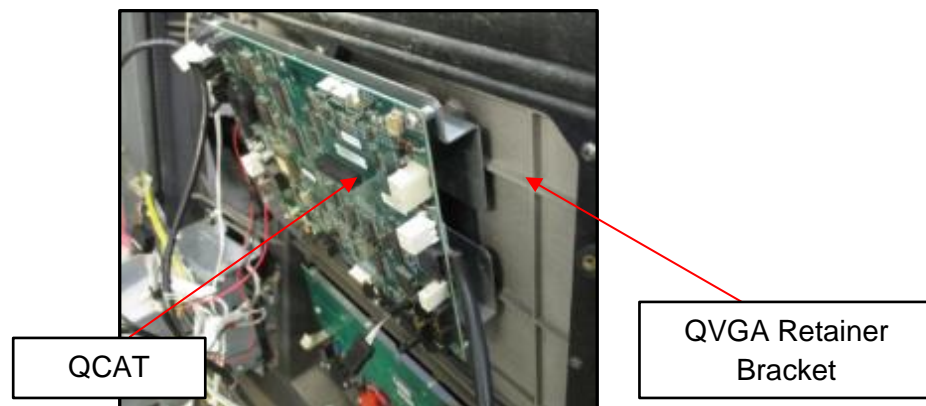

Fig 8a – Identifying the QVGA Bracket and QCAT Board
- 1) Remove and discard the four #6 1/4" screws (may be fewer after removal of ground screws) that fasten the QCAT board to the metal QVGA retainer bracket and remove the board from the retainer assembly. The "Caution High Voltage" shield may need to be removed to access one of the screws. The QCAT board can be discarded. It will not be re-installed. (Fig 8a,b)